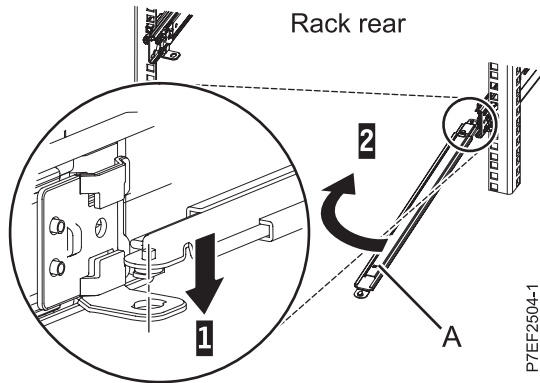

Figure 13. Connecting the support arm
1. The cable-management arm must be installed on the right side of the server while you are facing the server from the rear. The following figure shows the cable-management arm being installed on the right side. Connect one end of the support arm (A) to the right slide rail (1) so that you can swing the other end of the support arm toward the left side of the rack (2), as shown in Figure 13.